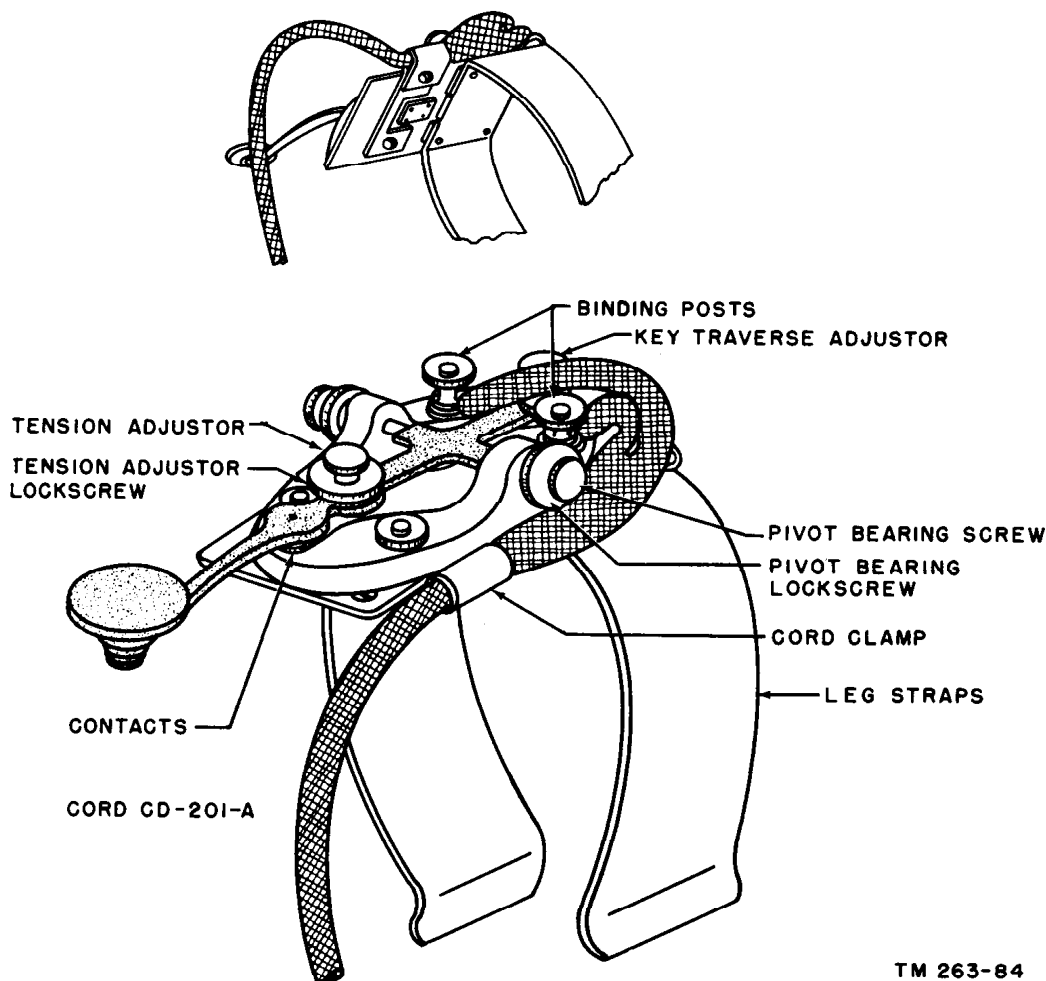

Figure 159. Adjustment of Key J-45.
- (1) The necessary sequence of operation of the relay is as follows: Contacts 3 and 4 and 17 and 18 should close before contacts 9 and 10. This is important, otherwise pa tube V103 may be ruined.
- (2) The air gap between contacts 4 and 5 and between 1 and 2 should be .035-inch minimum when contacts 3 and 4 are closed. Contacts 9 and 10 should be open with an air gap of .025-inch minimum clearance when contacts 7 and 8 are closed. Gap between contacts 8 and 9 with relay fully energized should be .018-inch minimum.
- (3) The contact pressures of the relay contacts are 29 grams, plus or minus 3 grams.
e. *Adjustment of Key J-45* (fig. 159). No special instructions are necessary for the adjustment of the key.